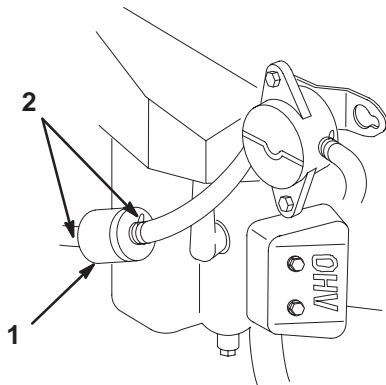

Figure 36
6. Squeeze the ends of the hose clamps together and slide them away from the filter (Fig. 36).